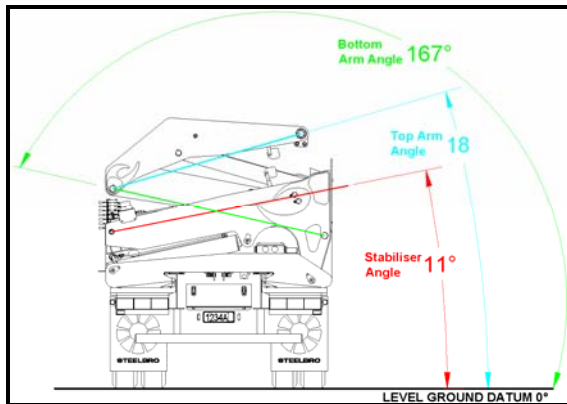

Figure 4
- Check that the Angle Sensor Values are as per Figure 4. Tolerance $\pm 1^\circ$.